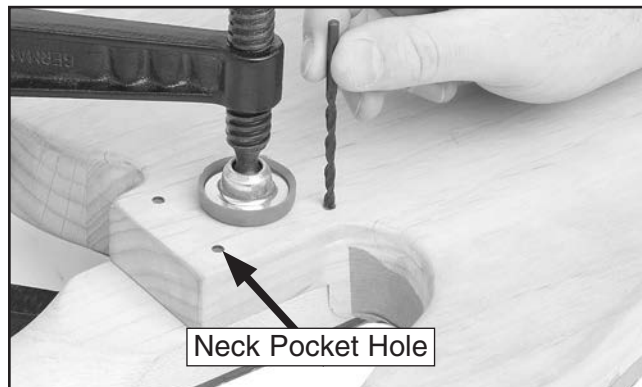

Figure 18. Making a pilot hole in the neck.
4. By hand, insert a $\frac{9}{64}$ " drill bit into each pre-drilled neck pocket hole (**Figure 18**). While pressing down slightly, twist the drill bit to make pilot holes in the neck.